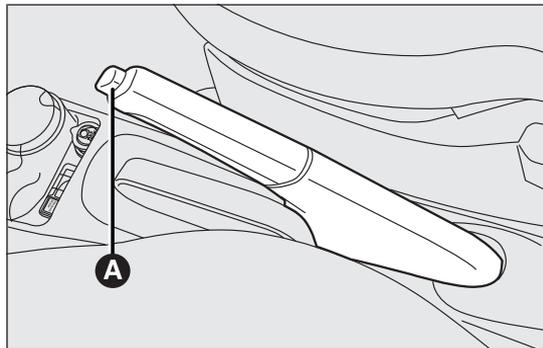

fig. 93
The handbrake is located fig. 93 between the two front seats.
- slightly lift the handbrake and press release button A fig. 93;